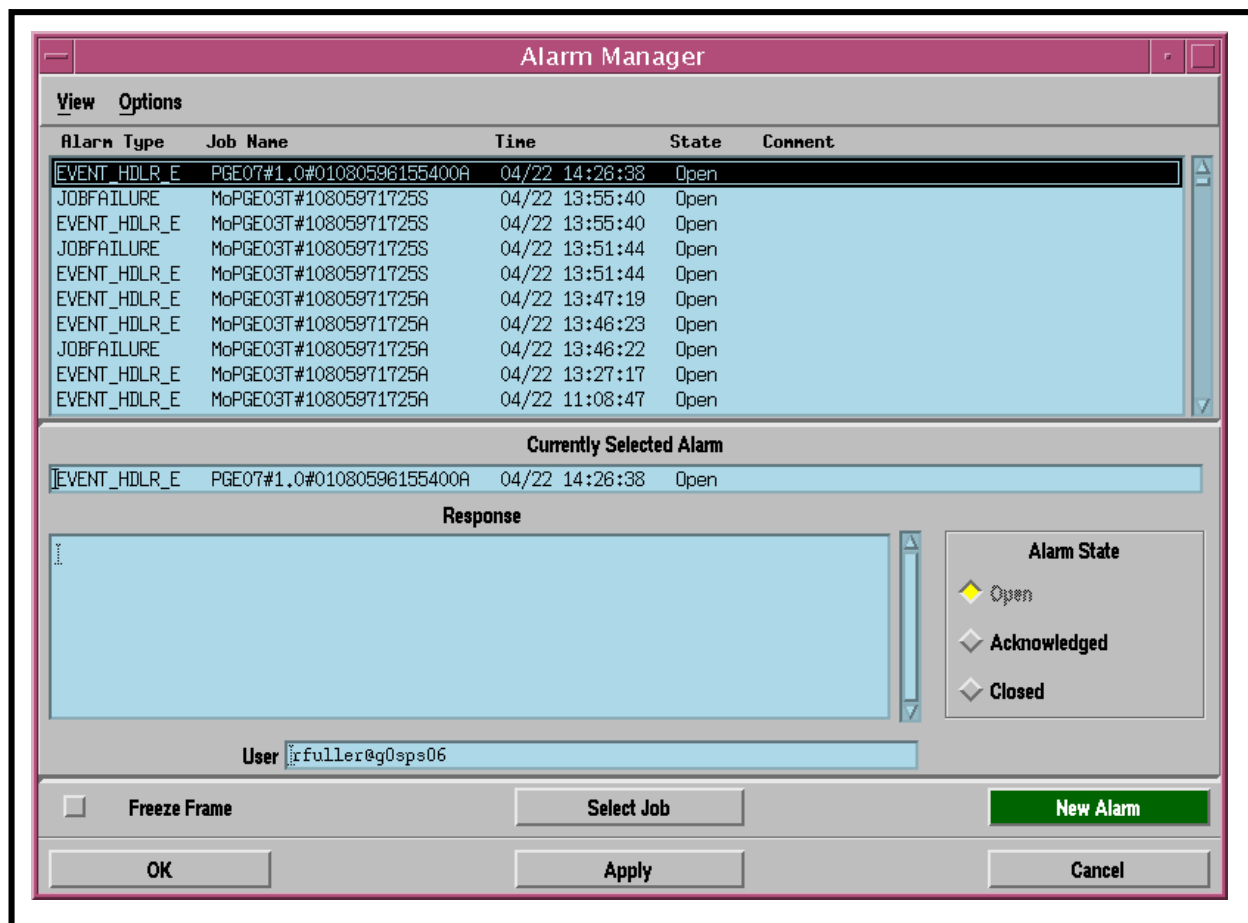

Figure 46. Alarm Manager GUI
- The **Alarm Manager** GUI (Figure 46) is displayed.